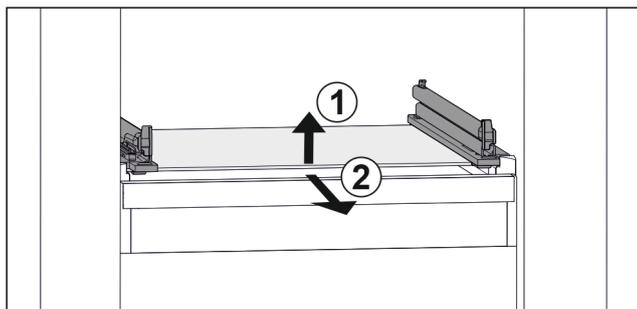

Fig. 53 Example illustration of glass shelf
- ▶ Lift glass shelf at the front. Fig. 53 (1)
- ▶ Remove glass shelf to the front. Fig. 53 (2)